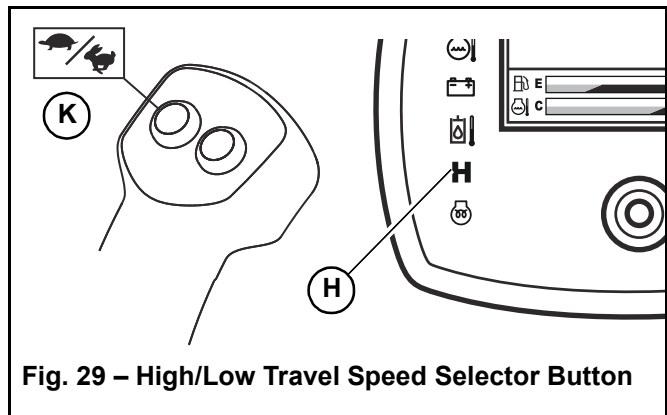

Fig. 29 – High/Low Travel Speed Selector Button
Pressing the speed range select button (K, Fig 29) on the left control joystick toggles between the two speed ranges. Indicator (H) is lit when the high-speed travel range is selected; indicator (H) goes out when low-speed range is selected.